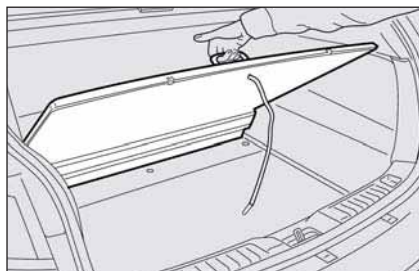

fig. 2
- ☐ Use the special handle to lift the load surface (where provided), as shown in **fig. 2**;